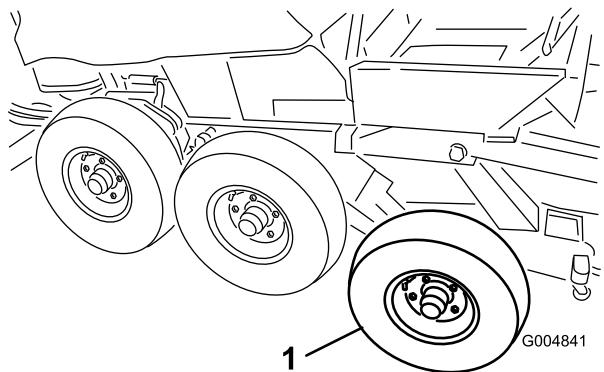

Figure 30
19. Remove the front and center tires from the winter assembly (Figure 30).